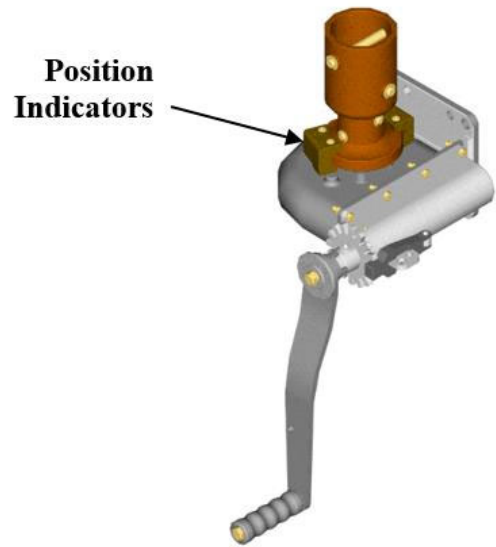

Fig. 12 Worm Gear
- Remove the small position indicators, which are attached to the worm gear coupling with Allen set screws (Fig 12).